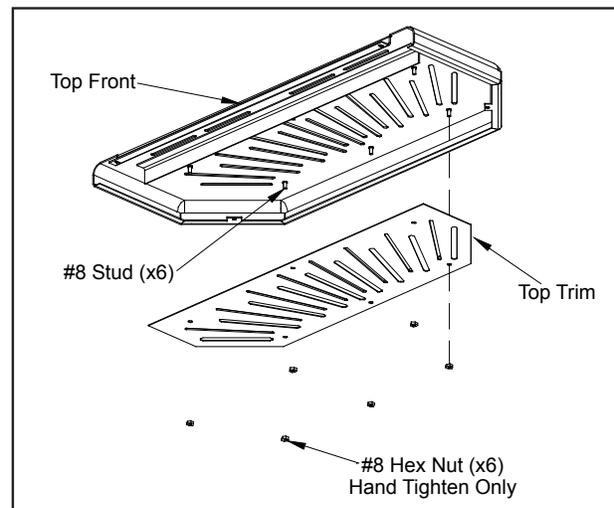

Figure 43: Top front with top trim
Place the new trim on its corresponding studs (see Figure 43) and finger tighten the six (6) #8 hex nuts. Replace top front on top of the stove, remembering to hook the two (2) front tabs under the corresponding tabs on the stove. Replace the two (2) screws on the top under the hopper lid then close lid. Replace the two (2) screws under the corner lips above the door. Align top then tighten screws.